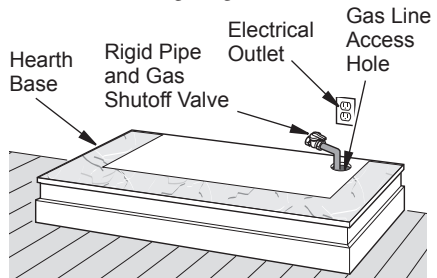

Figure 9 - Placing Hearth Base Accessory Against Wall
2. When installing blower, install a properly grounded, 120 volt three-prong electrical outlet at fireplace location if an outlet is not there. If possible, locate outlet so cabinet mantel will cover it when installed (see Figure 9).
4. Place hearth base accessory against wall at installation location. Cut an access hole in hearth top to run gas line to fireplace (see Figure 9). Make sure to locate access hole so cabinet mantel will cover it when installed. *Note:* You can secure base to floor using wood screws. Countersink screw heads and putty over.
- Install trim after final finishing and/or painting of wall (see Figure 9, page 9).